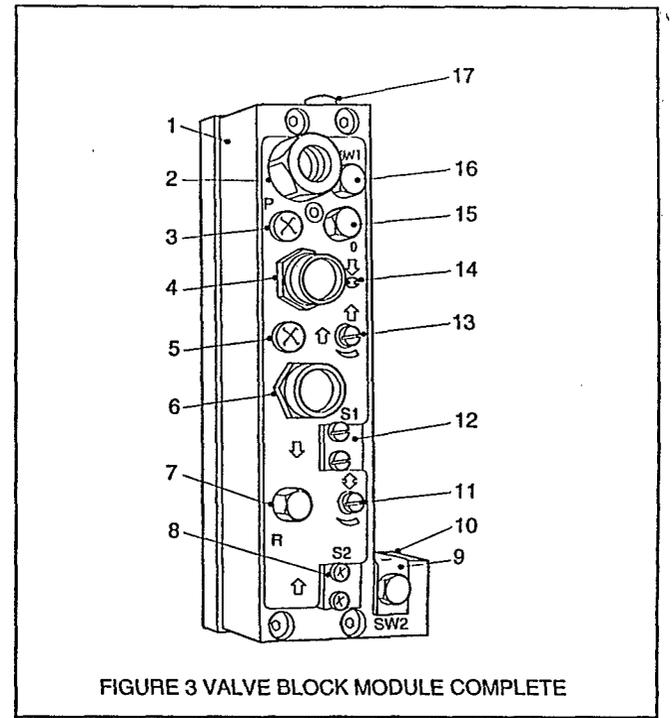

FIGURE 3 VALVE BLOCK MODULE COMPLETE
Adjust Figure 3 (11/13/14) to give the required advance, retract feeds for the operation.
Carry out a trial tapping operation and inspect the finished thread form, adjust as necessary Figure 3 (11/13/14) and repeat until information in NOTES 1 and 2 are satisfied.
Fully open the Figure 3 (13).
Close Figure 3 (11/14).
Connect the air supply and press Figure 3 (6).
**CONTROL VALVE (FIGURE 3)**